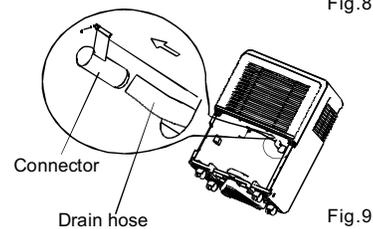

Fig.9
- Remove the plastic cover from the back-drain outlet of the unit and remove bucket, then insert the drain hose through the drain outlet of the unit and securely press it onto the connector on the front of the unit. (See Fig.9)